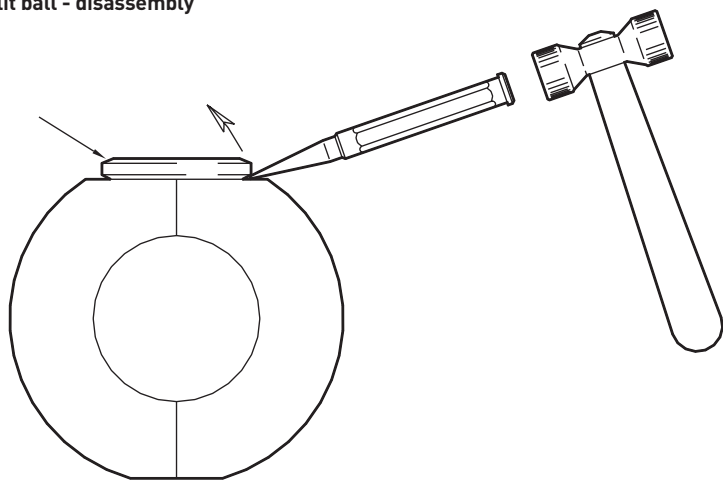

FIGURE 1
- 5.1. Drive off the locking ring (as shown in Figure 1).